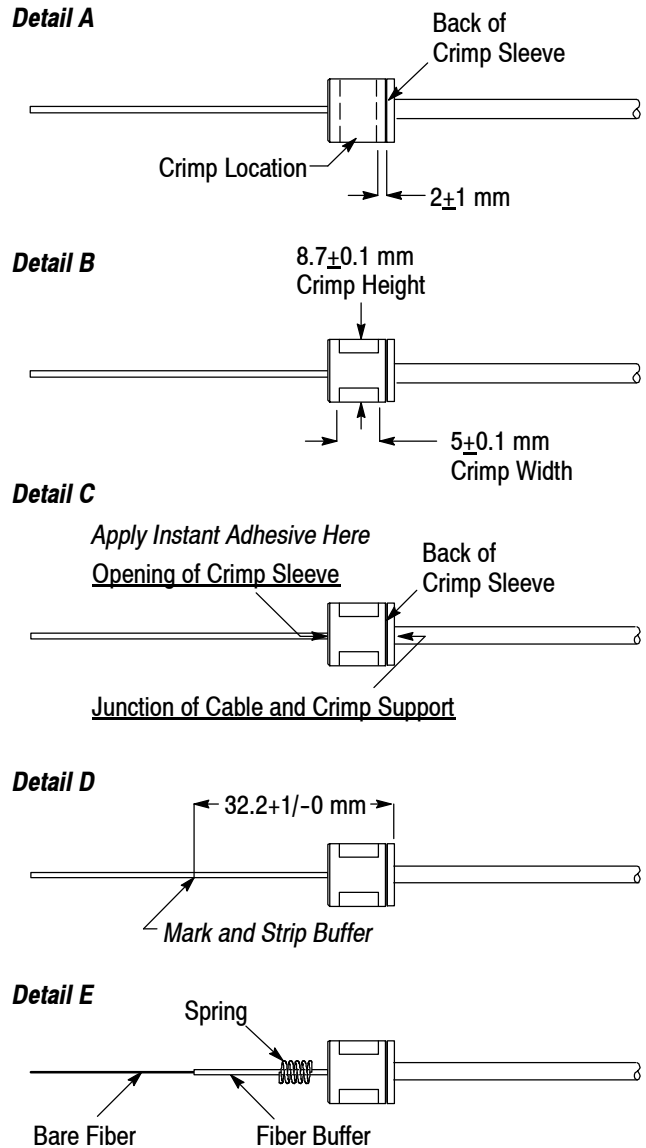

Figure 5
6. Place the crimp sleeve in the 8.6-mm hex nest of the hand tool, and crimp the crimp sleeve onto the crimp support. Make sure to position the crimp sleeve in the hex nest so that the crimp will locate from the back of the crimp sleeve to within the dimension shown in Figure 5, Detail A.
7. Using the micrometer or caliper, measure the crimp sleeve across the flats of the hex crimp to make sure that it conforms to the crimp height and crimp width shown in Figure 5, Detail B. If necessary, crimp again, and re-measure the crimp.
8. At the back of the crimp support, apply the instant adhesive around the circumference of the crimp support at the junction of the cable and the crimp support. Then at the front of the crimp sleeve, apply the instant adhesive over the opening of the crimp sleeve to encapsulate the strength members. See Figure 5, Detail C. Remove any excess adhesive.
9. Mark the fiber at the dimension shown in Figure 5, Detail D, and using the fiber stripping tool, strip the buffer to the mark, exposing the bare fiber. Using a lint-free tissue or cloth dampened with the isopropyl alcohol or acetone, clean the bare fiber.
10. Slide the spring onto the fiber buffer. See Figure 5, Detail E.